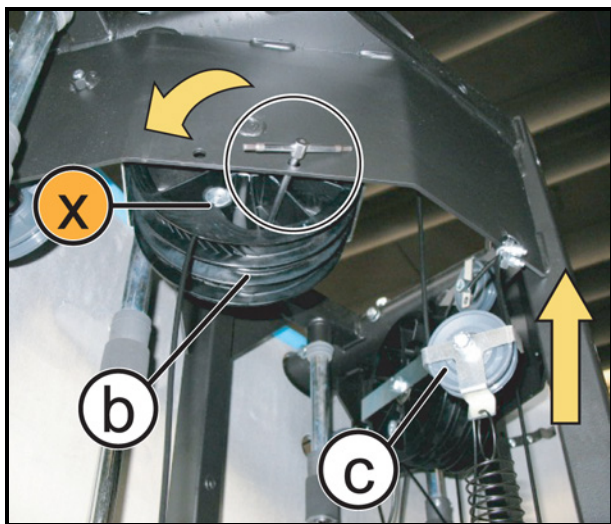

Figure 6.4-5
16. Remove the Allen T wrench used at the point (**3**) of Figure 6.4-5. The cam will rotate about 3 turns moved by the spring previously loaded.
17. Rotate the cam **3 more turns** CLOCKWISE (the same in which the cam has moved in the previous step) then lock it again using an Allen T wrench as done before in Figure 6.4-5. The spring group pulley (**c**) will raise close to the upper frame.